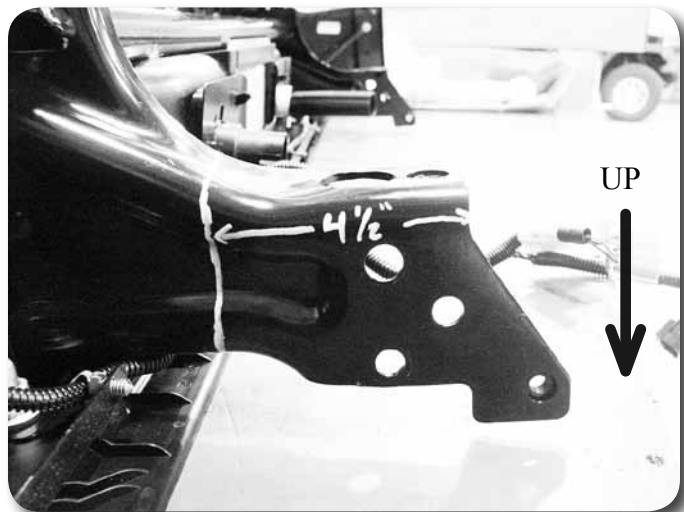

Figure 33
12. The rear bumper must be modified to install the new rear bumper brackets. Measure back on bracket from the edge of the bottom tab (tab that goes against the bottom surface of the frame) 4-1/2" and make a vertical cut line **Figure 33**. Cut the end of the bracket off along the line. Remove any burrs and paint exposed metal to prevent corrosion. *Note: Bumper is shown upside down in picture.*